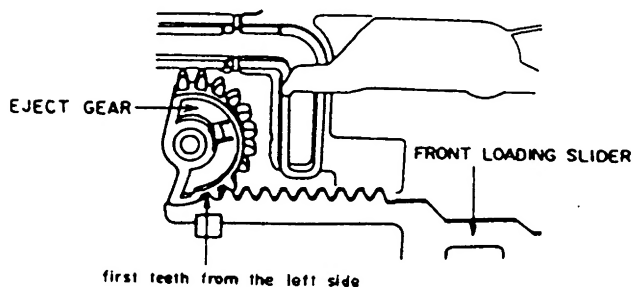

Fig. 3-12
- 1) Confirm that the EJECT GEAR is in the correct position as shown in Fig. 3-12.